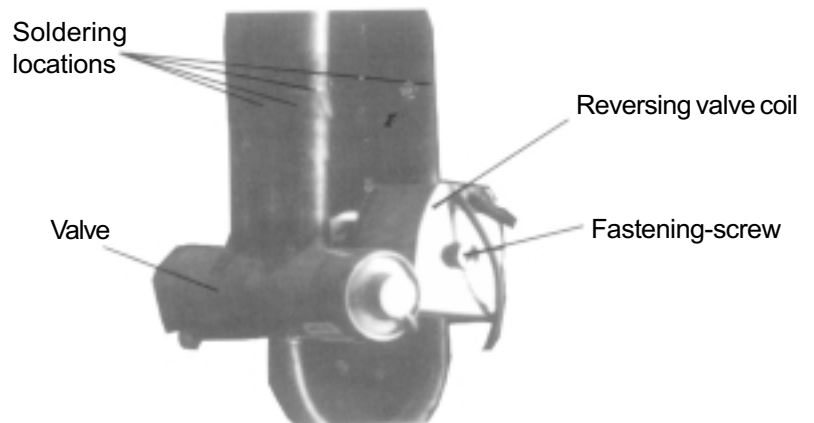

Figure 40
- ⑤ Disassemble the reversing valve.
- Remove the reversing valve as shown in figure 40.